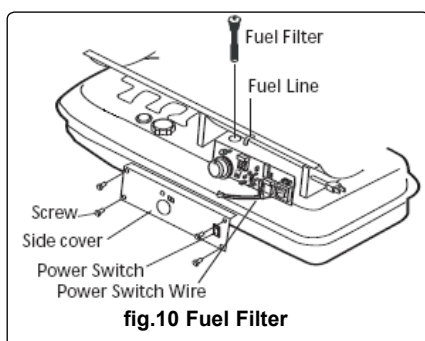

fig.10 Fuel Filter
- 6.5 Fuel filter.** The fuel filter (fig.10) should be cleaned twice per season, unless contamination occurs where it will require cleaning immediately. To clean the filter, remove and wash in paraffin.